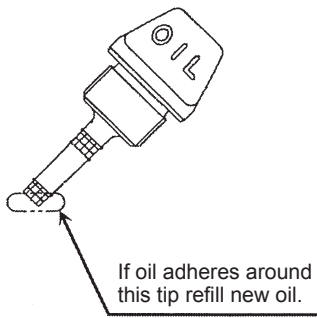
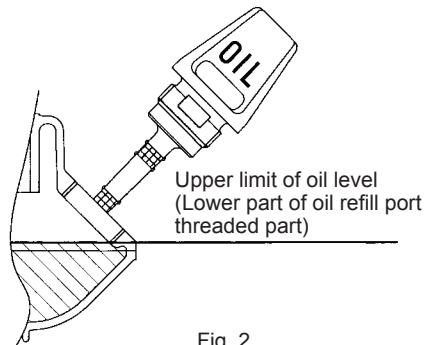

Fig. 1
Fig. 2
- When the oil is in short in such a way that the oil gauge touches the oil only by its tip, in particular with the oil gauge remaining inserted in the crankcase without screwing-in (Fig. 1), refill new oil near the port (Fig. 2).
- (1) Keep the engine level, and detach the oil gauge.
- (2) Fill oil up to the edge of the oil refill port. (Refer to Fig.2 of the preceding page). Feed oil with the lubricant refill container.
- (3) Securely tighten the oil gauge. Insufficient tightening may cause oil leakage.